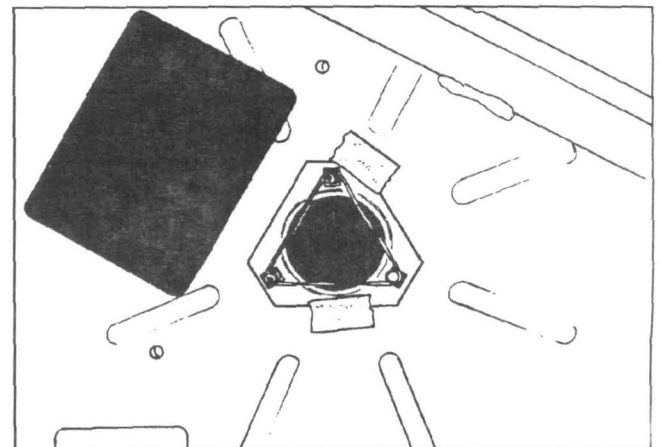

Fig. 15
A. Insert three carriage bolts ($\frac{5}{16}$ "-18x $\frac{3}{4}$ ") through the flangette mounting notches in the chamber wall (see Fig. 15). Be sure to insert the bolts from inside the wall so that the threads face outward.
D. Place masking tape along the edges of the flangette to hold it in place (see Fig. 15).
E. Carefully slip a rubber band over the three bolts to prevent them from moving (see Fig. 15). The bearing and the outer flangette will be installed in later steps.